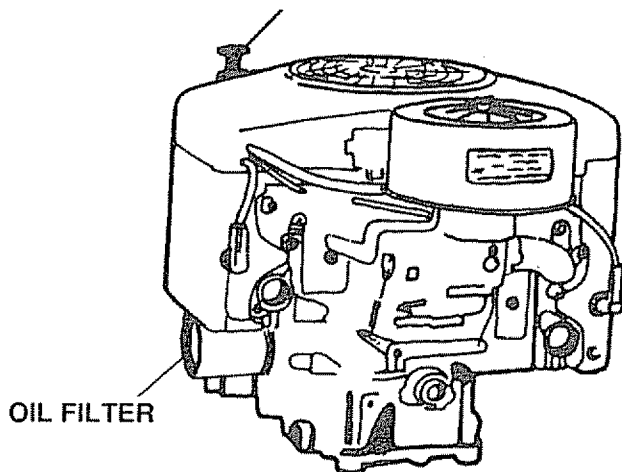

FIGURE 19
- b. Loosen oil drain plug (Fig. 18) and remove dipstick (Fig. 19).
- f. Replace dipstick (Fig. 19) then remove dipstick and read oil level. Make sure oil level is at the "FULL" mark on dipstick. Add or remove oil as indicated on dipstick.
Several minutes after stopping engine, check engine oil level with tractor on level ground. Wipe dipstick (Fig. 19) clean, screw it down tight for a few seconds, remove and read oil level. If necessary, add oil until "FULL" mark is reached (See chart above) NOTE: DO NOT OVERFILL
- Drain crankcase of oil (refer to "CHANGE ENGINE OIL," page 15, through step d). Remove old filter (Fig. 19) by turning counterclockwise.